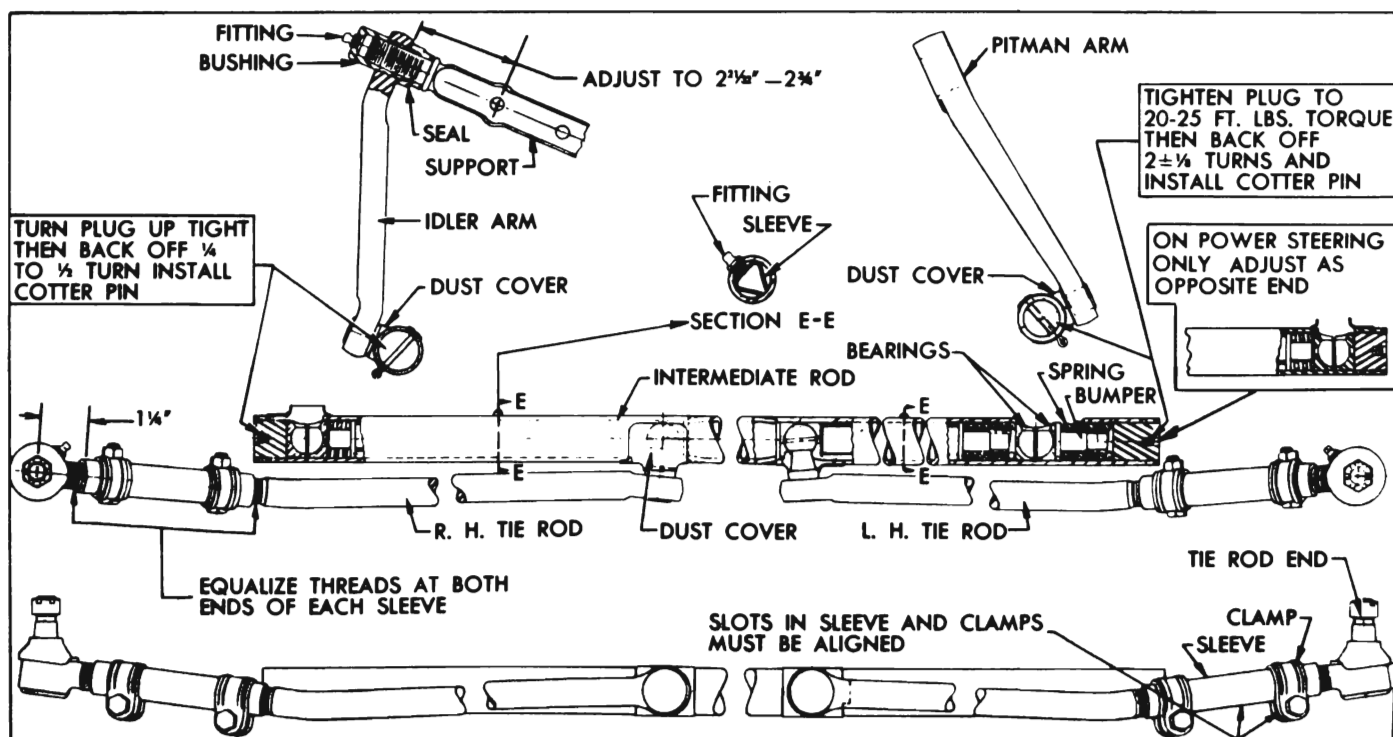

Figure 8-5—Steering Linkage
The Parallelogram type steering linkage is used to connect both front wheels to the steering gear pitman arm. As shown in figure 8-5, the right and left tie rods are connected to a tubular intermediate rod. The left end of the intermediate rod is supported by the pitman arm and the right end is supported by an idler arm which pivots on a support attached to the frame. The pitman and idler arms are always parallel with each other and move through symmetrical arcs.
tact with the ball studs through pressure applied by heavy coil springs located at the pitman and idler arm stud bearings. Steel spacers transmit this spring pressure to the tie rod ball stud bearings. See figure 8-5.
Flanged steel bumpers extending through the springs act as spring guides, permit a restricted movement of ball studs and bearings as the springs absorb road shock, and prevent the bearings from spreading and releasing the ball studs in the event of spring breakage. The spring tension and clearances at ends of bumpers are adjusted by the threaded end plugs. See figure 8-5.
The tie rod end, which connects each tie rod to a steering arm, is a spring-load ball stud and socket unit assembly. A rubber dust seal fits over the stud where it emerges from the socket, to provide protection against entrance of dirt and water. The tie rods are connected to the tie rod ends by internally threaded sleeves which provide for toe-in adjustment. The sleeves are slotted and provided with clamps at each end to lock them in place. See figure 8-5.
1. Disconnect intermediate rod from pitman arm by unscrewing end plug until bearings will release the ball stud. See figure 8-5. Check tightness of pitman arm nut with 18" wrench.
The intermediate rod must be maintained in a level position to insure good steering action. This requires proper location of the idler arm on its support so that the idler arm ball stud will be level with the pitman arm ball stud. The support must be threaded into the idler arm bushing until the distance from the center of support lower bolt hole to the nearest face of idler arm is  $2\frac{21}{32}$ " to  $2\frac{3}{4}$ ", as shown in figure 8-5. After